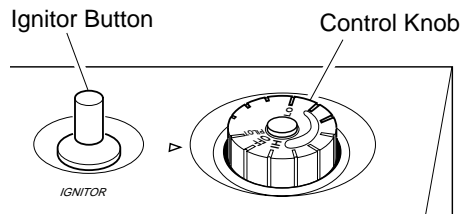

Figure 24 - Control Knob In The OFF Position
4. Wait five (5) minutes to clear out any gas. Then smell for gas, including near the floor. If you smell gas, **STOP!** Follow "B" in the safety information. If you don't smell gas, go to the next step.
5. Turn control knob counterclockwise  to the PILOT position. Press in control knob for five (5) seconds (see Figure 24).